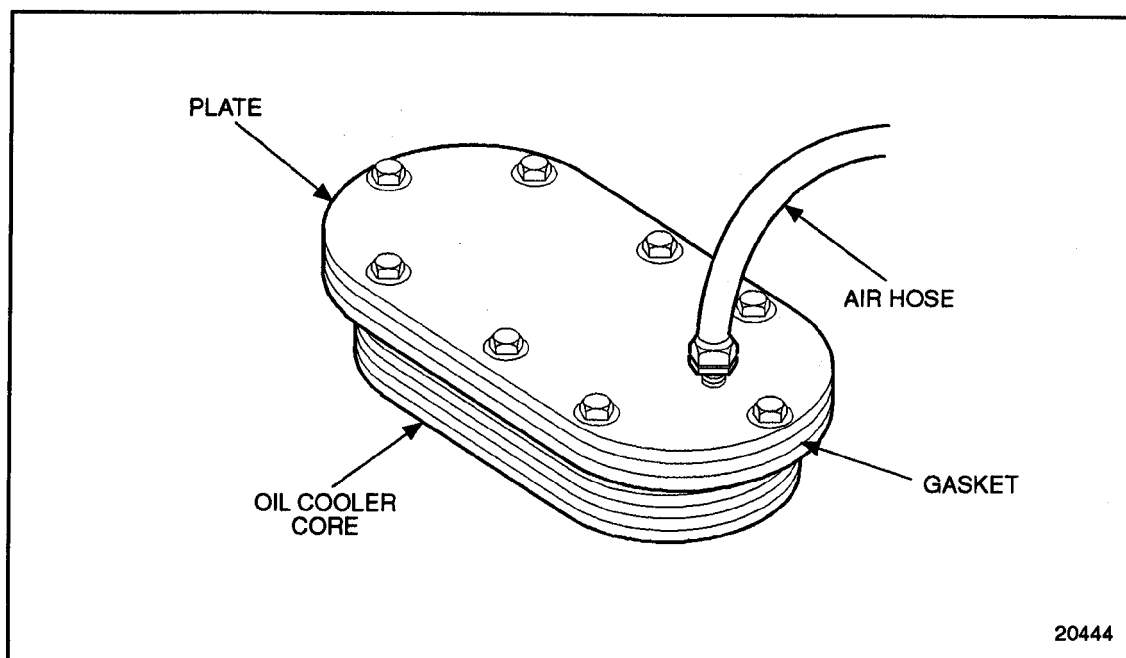

Figure 3-32 Preparing Oil Cooler Core for Pressure Test
2. Drill and tap the plate prior to mounting to permit an air hose fitting to be attached at the inlet side of the core. See Figure 3-32.